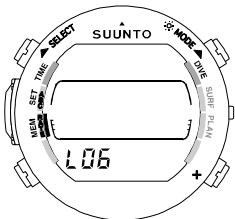

Fig. 6.3 Logbook Memory Mode.
1. In the Memory Mode [MEM], press **[SELECT]** to select the Logbook Memory Mode (Fig. 6.3). The LOG text appears at the bottom of the display to indicate the selected mode.